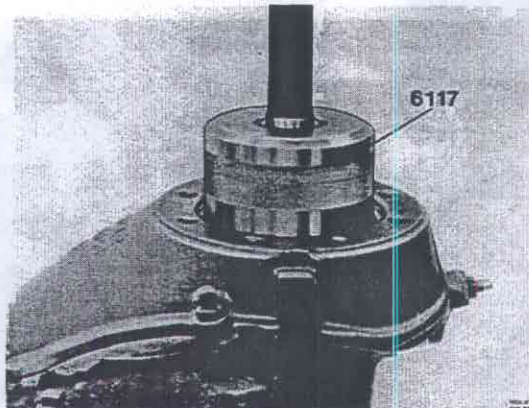

Fig. 46-79. Driving in the seal
5. Place the dust cover in position and drive it down with 6117, Fig. 46-79. Take care not to damage the dust cover should the shaft fall against the steering knuckle support.